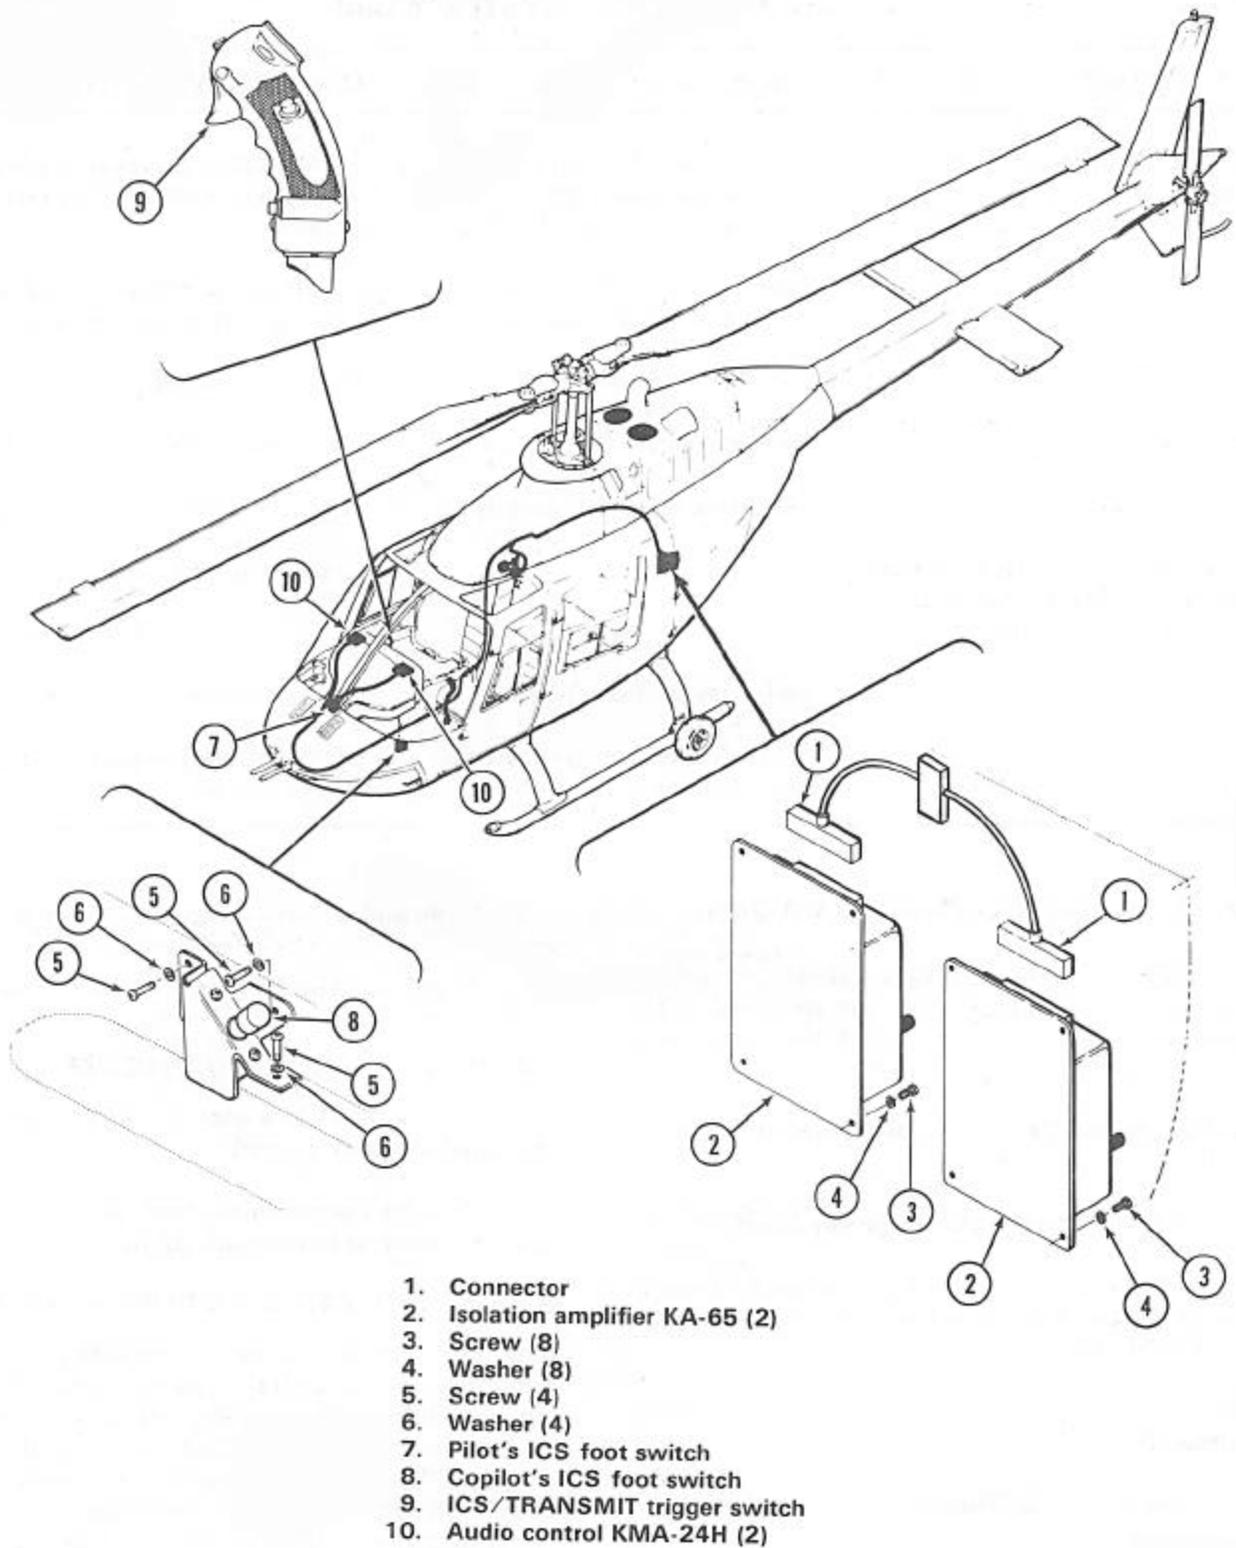

Figure 23-4. Audio/ICS System Component Locations
The two KA-65 isolation amplifiers enhance communications with the rear stations. To isolate input audio, the signals are initially attenuated, and subsequently amplified, to reconstitute the output to be equal to the input. The power gain of isolation (interphone) amplifiers is 1 (0db) at a nominal input/output impedance of 500 ohms. The amplifier gains can be adjusted if the one-to-one voltage ratio is too low. The isolation amplifiers are mounted on the forward bulkhead of the baggage compartment. (Refer to Figure 23-4.)
3. Disconnect electrical connector (1, Figure 23-4) from isolation amplifier (2).
4. Remove screws (3), and washers (4), attaching isolation amplifier to forward bulkhead of the baggage compartment.
2. Align isolation amplifier units (2, Figure 23-4) with mounting holes and install washers (4) and screws (3).
3. Connect electrical connector (1) to isolation amplifier (2).
2. Remove screws (5, Figure 23-4) and washers (6) attaching switch (7 or 8) to console.
3. Install switch (7 or 8, Figure 23-4) using screws (5) and washers (6).